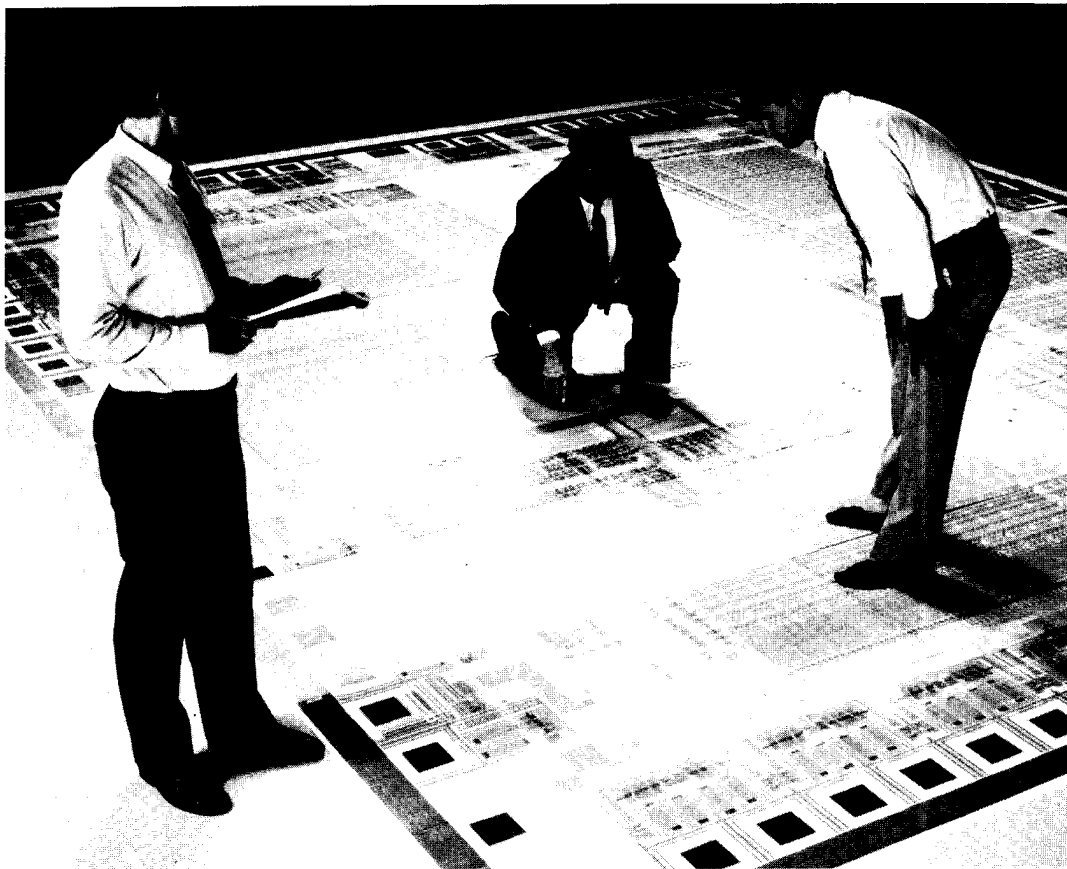

Figure 12.13. At the chip-design level, CAD/CAM isn't a luxury - it's a necessity. (Courtesy of Performance Semiconductor Corporation, Sunnyvale, California.)
□ *CAD-base ASIC.* We finish our CAD narrative by pointing out that you would not dream of designing custom or semicustom (gate-array) ICs by hand (Fig. 12.13). These belong in the general class of "application-specific integrated circuits," or ASICs. Once again, CAD comes to the rescue, with capture and simulation software that gives you some assurance that your chip has a chance of working. ASICs are rational in the context of substantial production runs, and we confidently assume that the situation will only improve with time. By the time of the next revision of this book it may have become